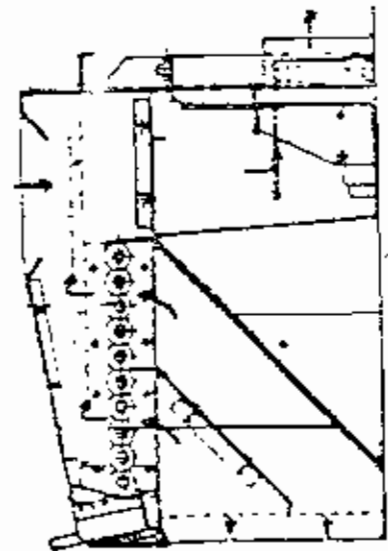

Fig 10 Secondary heat exchanger R18
#### **2.18. WATER FLOW SWITCH** (see fig 1 ITEM 10 & fig 10 item 28)